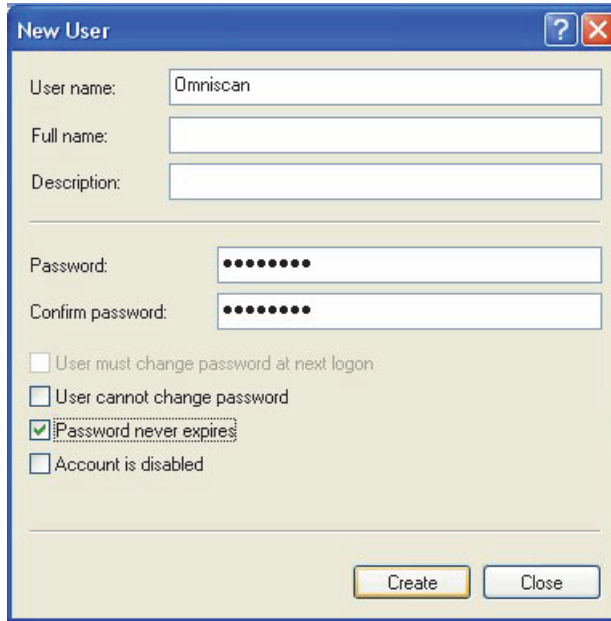

Figure 14-6 The New User dialog box (Windows XP)
The **New User** dialog box appears (see Figure 14-6 on page 300).
- Clear the following check boxes (see Figure 14-6 on page 300):